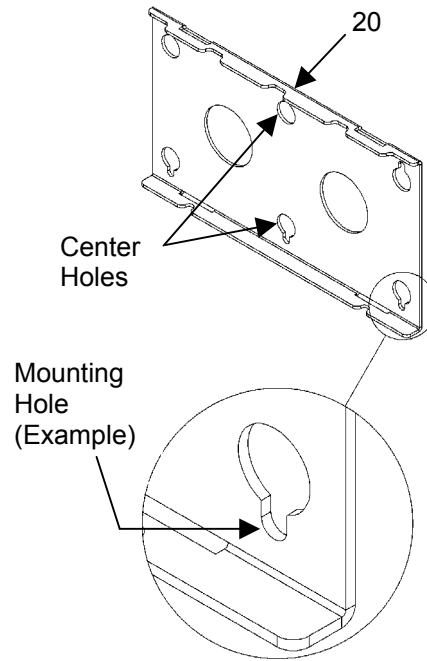

Figure 1. Installing Wall Bracket — Wall Stud
2. Position the wall bracket (20) as desired (see Figure 1).